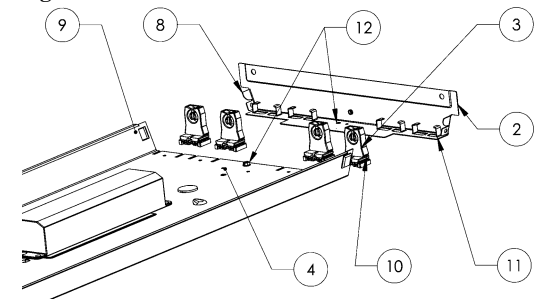

Figure 2.
- End cap assembly: To assemble each end cap (2) to channel (1) slide end cap (2) large tab (8) fits into slot (9) on both sides of the channel (1). Insert screw (12) and secure through channel into end cap. (Figure 2)
- To install sockets: Place socket (3) flat on channel (1) with back towards end cap (2). Socket tabs (10) slide into the end cap slots (11) (Figure 2)
- To locate, hold channel (1) up to ceiling with power supply knockout located over entryway for power supply wires. Mark the locations of the two 1/4" diameter-mounting holes on the ceiling. Take the channel (1) down and punch a small hole into the ceiling at each location using a nail or an awl to see if there is a wood joist. If there is a joist use a suitable wood screw (not included) to mount the channel (1). Where there is no joist to screw into use a 1/4" toggle bolt (not included) of suitable length to mount channel (1) securely to the ceiling. **Proceed to step H before final mounting. (STEP B NOT H)**
- Feed the black and white supply wires, and the green ground wire into the fixture through open knockout hole. At this time you can finish mounting the channel (1) to the ceiling.